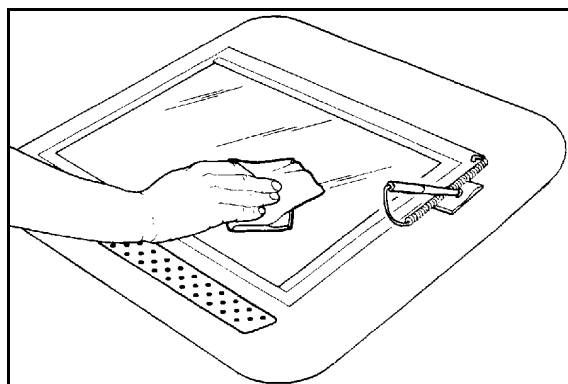

Figure 6: Cleaning the Top Surface of the Clear Plastic Overlay
- 4 Wipe the top surface of the Clear Plastic Overlay until it is clean and dry, as illustrated in Figure 6.